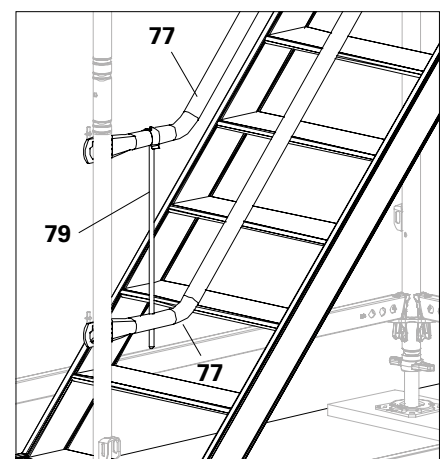

Fig. A3.02
4. Connect both Stair Guardrails EAG with Locking Pins EAG (**79**) through the post holes (**77.3**). (Fig. A3.02)